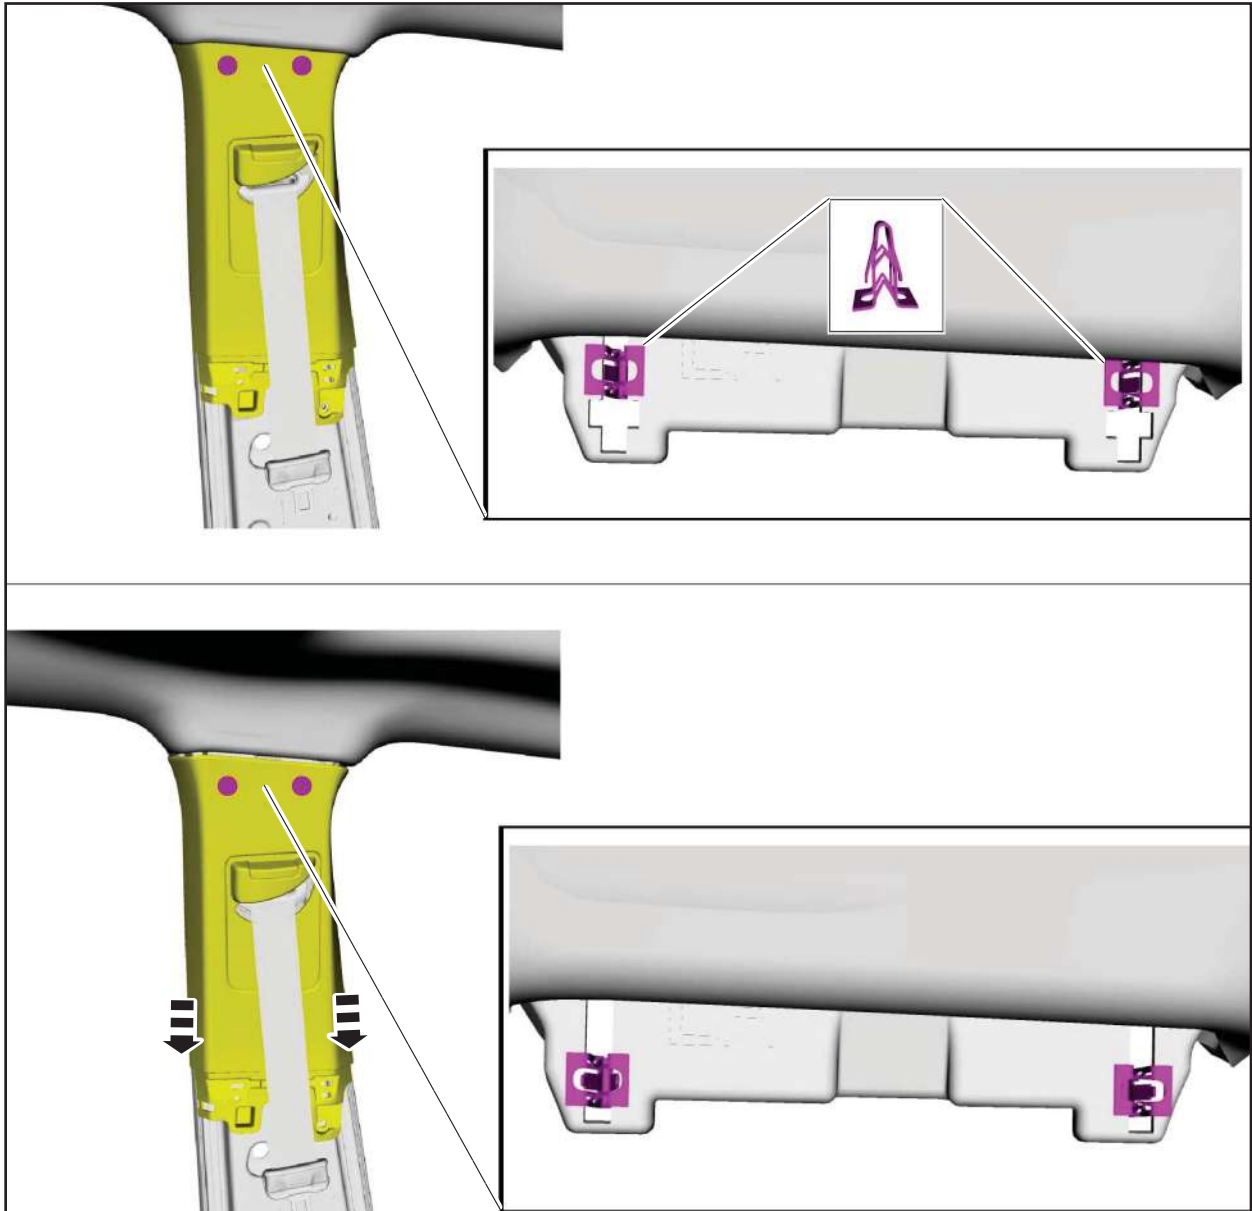

FIGURE 8
8. Slide the upper B-pillar trim panel down, aligning the clips to the slots in the sheet metal. See Figure 8.